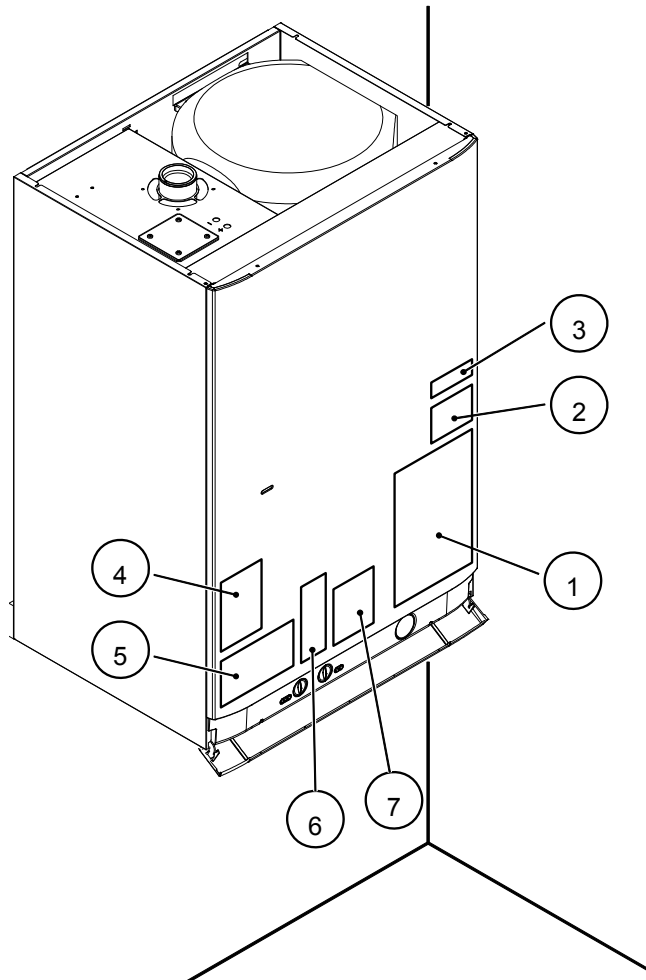

Figure 15.11
**Warning: The installation is not complete unless labels supplied are placed on the boiler as shown in Figure 15.11.**
All the labels supplied with the boiler are numbered for reference. According to Figure 15.11 place all the labels on the boiler. Use label numbered as 1 (already installed in the front panel) to begin the placement in the correct way.